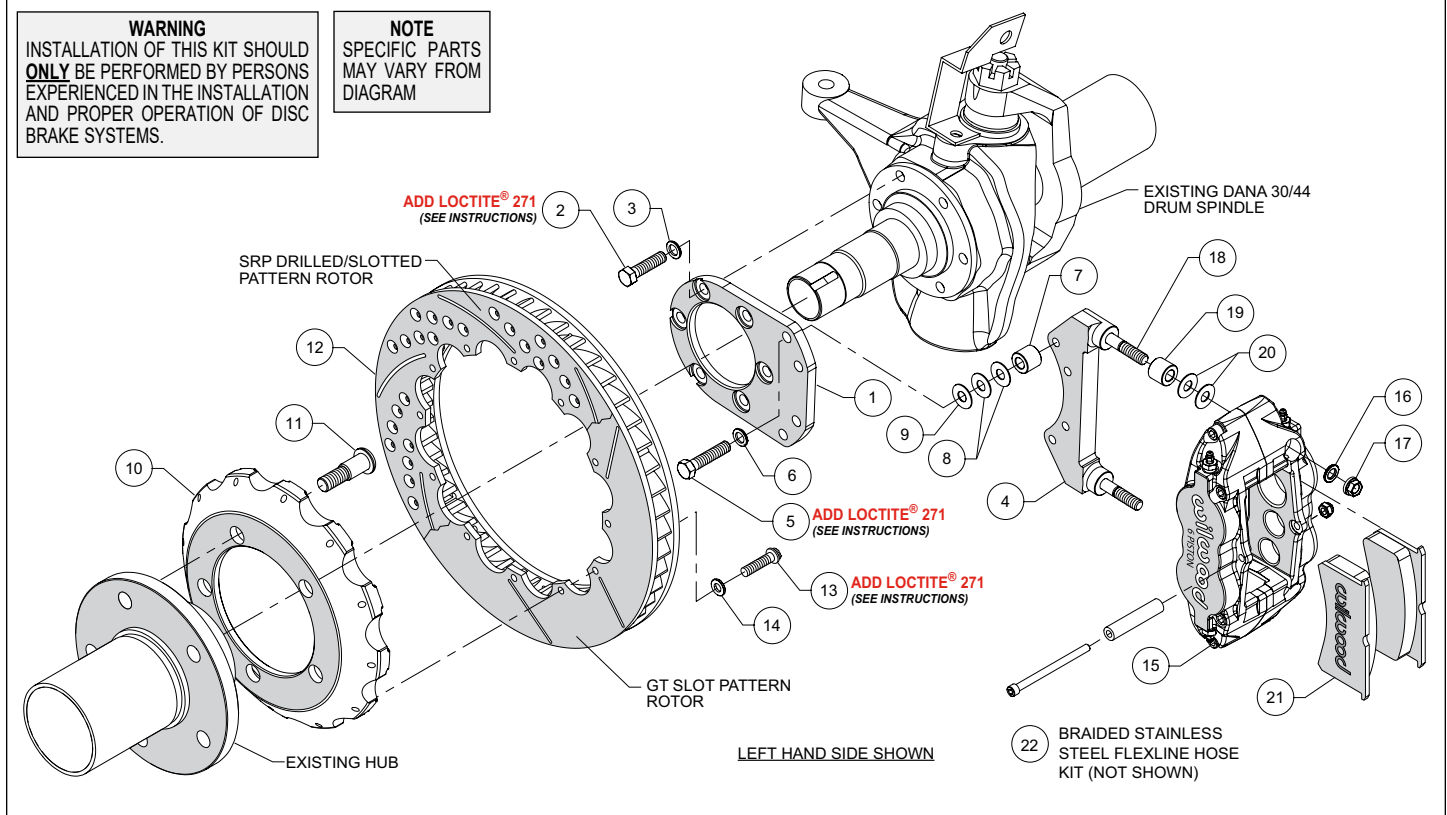

Figure 1. Typical Installation Configuration
**NOTE:** Numbers in parenthesis refer to the parts list and Figure 1 on the preceding pages.
- Orient the flat mount bracket (1) as shown in Figure 1 and Photo 1, and install using bolts (2), and washers (3). Ensure that the counterbored holes in the bracket are facing outboard, Figure 1. Temporarily tighten the mounting bolts. **NOTE:** The bracket must fit squarely against the mount bosses on the upright. Inspect for interference from casting irregularities, machining ridges, burrs, etc. Remove bolts one at a time, apply red *Loctite*® 271 to the threads and torque to 40 ft-lb.
- The caliper mount bracket (4) should initially be installed with clean, dry threads on the mounting bolts. Orient the bracket as shown in Figure 1 and Photo 2, and install using mount bolts (5) and washers (6). Initially place two .035" thick shims (8) and spacer (7) on each bolt between the flat and caliper brackets, Figure 1. Temporarily tighten the mounting bolts. Later, after the caliper alignment has been checked, the mount bolts will be secured using red *Loctite*® 271.
- Orient the hat (10) and the OEM hub as shown in Figure 1 and Photo 3. **NOTE:** The hat must fit flush against the axle hub or excessive rotor run out may result. Install the wheel studs (11) thru the holes in the hat and press into the existing hub. **NOTE:** We recommend this procedure be performed by a qualified machinist.
- Orient the rotor (12) and the hat/ hub assembly as shown in Figure 1 and Photo 4. Attach rotor to hat using bolts (13) and washers (14). Apply red *Loctite*® 271 to the bolt threads and torque
•**NOTE:** This kit contains distinct right and left hand calipers that **must** be mounted in a specific direction, as described below. Place spacer (19) and initially two .035" thick shims (20) on each stud (18) as shown in Figure 1 and Photo 5. Mount the caliper (15) onto the bracket (4) using lock nuts (17) and washers (16), Figure 1. Temporarily tighten the lock nuts. Ensure that the caliper is mounted so the largest pistons are at the rotor exit end of the caliper, in relation to the direction of the rotor. View the rotor through the top opening of the caliper. The rotor should be centered in the caliper, Photo 6. If not, adjust by adding or subtracting shims (8 and/or 9) between the spindle bracket and caliper bracket. Always use the same amount of shims on each of the four mounting bolts. Once the caliper alignment is correct, remove the bracket to bracket mounting bolts (5) one at a time, apply red *Loctite*® 271 to the threads, and torque to 35 ft-lb.